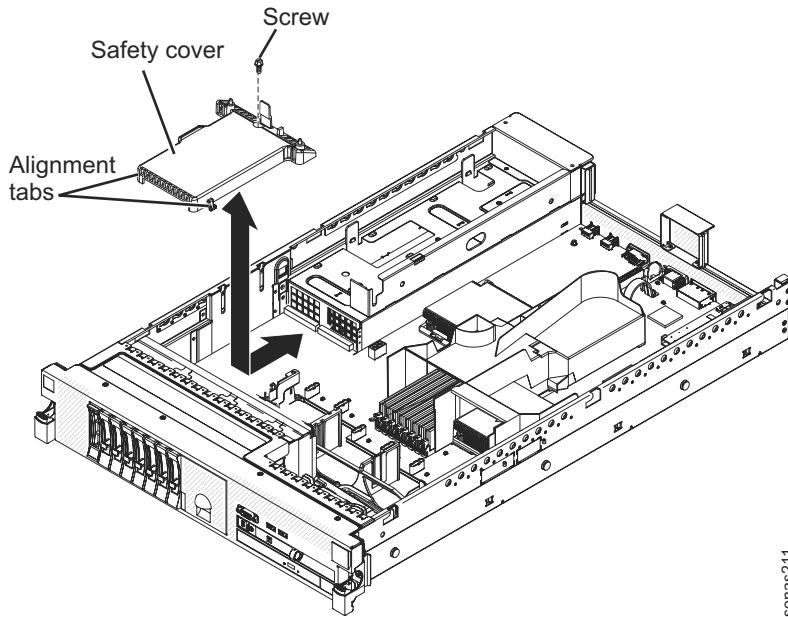

Figure 45. 240 VA safety cover
6. Remove the screw from the safety cover. See Figure 45 on page 150.